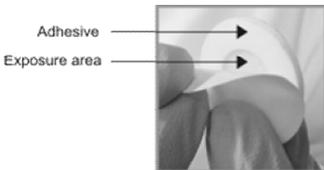

Figure 1
- Peel off the protective liner to expose the bottom adhesive (Figure 1).